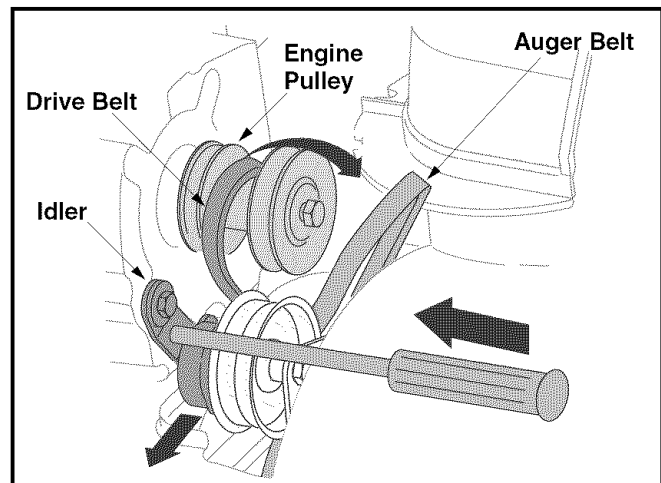

Figure 23
- Push idler counter-clockwise and insert a Phillips head screwdriver in the hole on the idler as shown in Figure 23. This will release tension on drive belt.
- Pull drive belt out and away from the engine pulley to remove. See Figure 23.